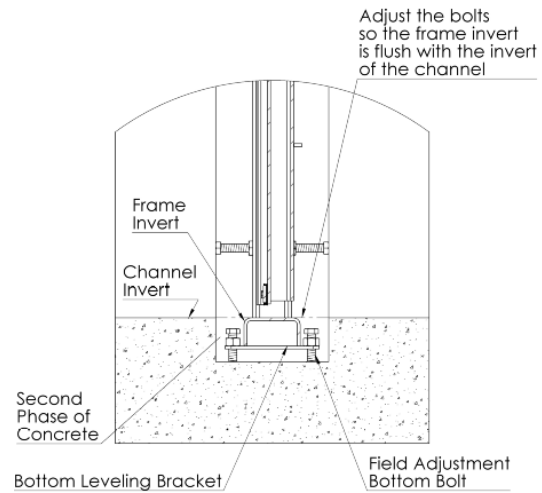

Figure 5
- Align the unit vertically and make sure that the frame is flush with the invert of the channel. Adjust the bolts on the "Bottom Leveling Brackets" if applicable (See Figure 5)